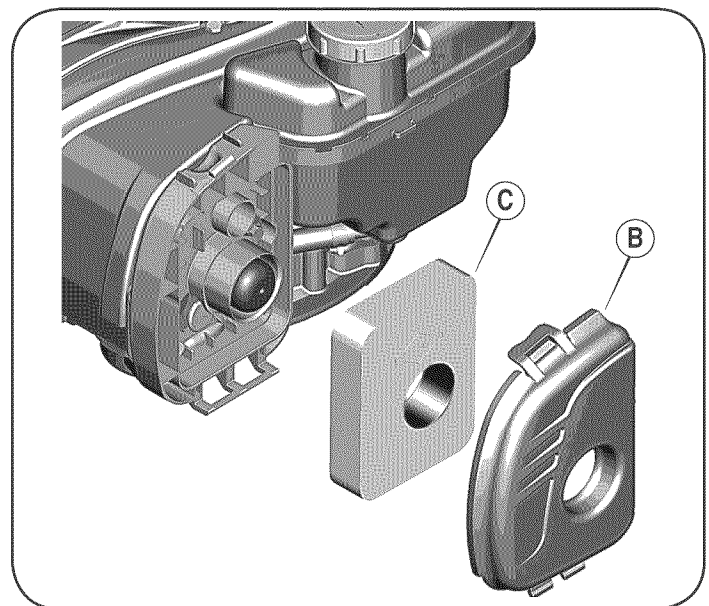

Figure 13
1. Open the cover (B) and remove the foam element (C). See Figure 13.